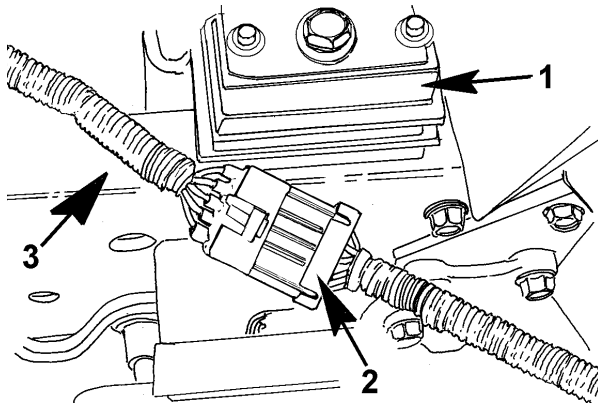

Figure 15 Harness Connections (Each Side at Radiator)
Reference Figure 15 for items in parentheses.
8. Reconnect front end wire harness connector (Item 2, Figure 15) to the appropriate chassis harness connector. Secure the wire harness with the clips and loop clamps provided, as necessary.